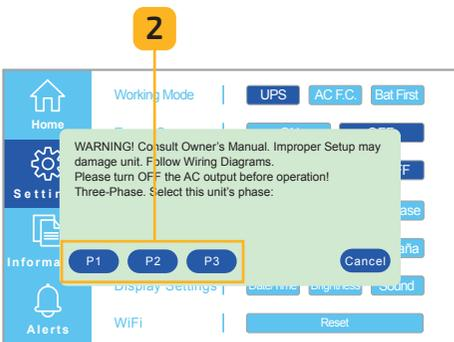

Fig. 6.27 Select P1, P2, or P3 option
2. Select the **P1**, **P2**, or **P3** button (Fig. 6.27).